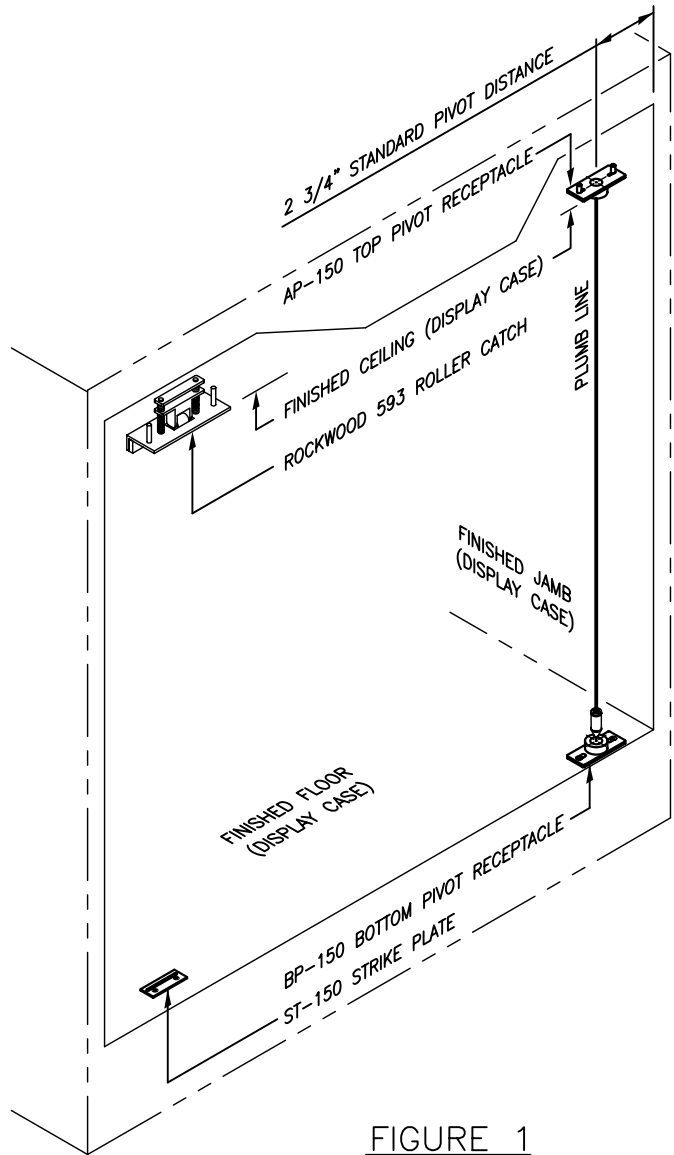

FIGURE 1
2. USE PLUMB BOB FROM AP-150 TOP PIVOT RECEPTACLE TO ALIGN BP-150 BOTTOM PIVOT (SEE **FIGURE 1**) SECURELY MOUNT BP-150 BOTTOM PIVOT RECEPTACLE WITH SCREWS PROVIDED AT CENTER OF ADJUSTMENT SLOT.